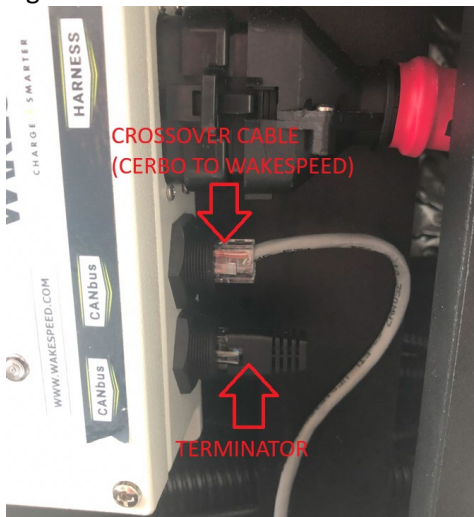

Figure 9
13. Plug the crossover cable into the top CANbus port and the terminator into bottom CANbus port as shown in Figure 9.